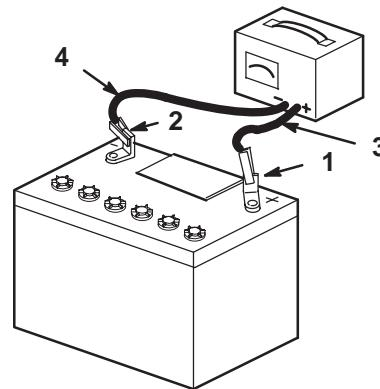

Figure 36
- When the battery is fully charged, unplug the charger from the electrical outlet, then disconnect the charger leads from the battery posts (Fig. 36).